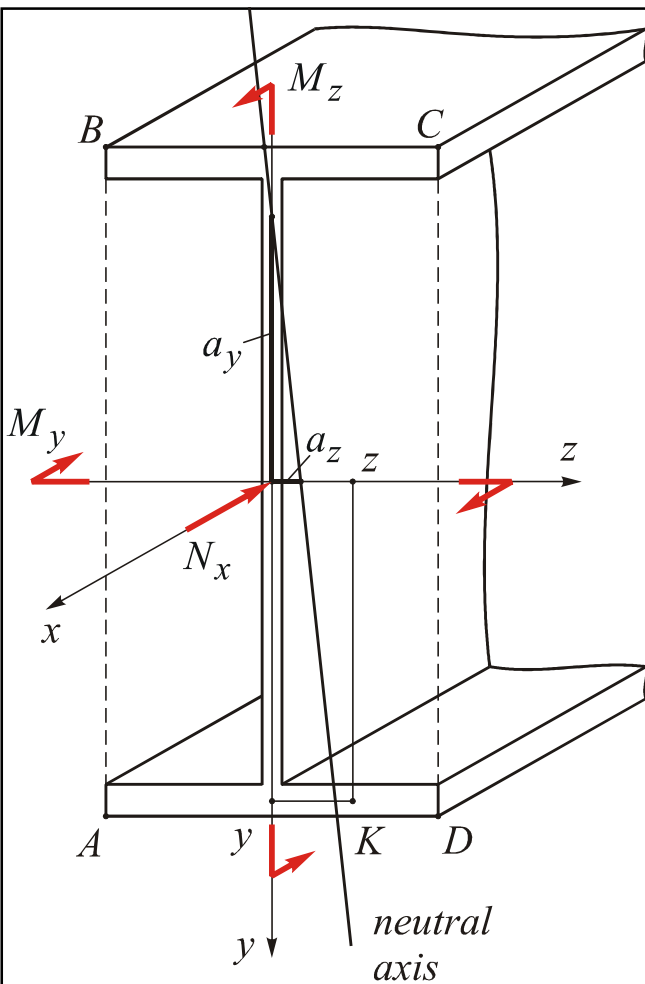

Fig. 4
5) Determine the neutral axis position analytically. For this purpose, equate to zero the stress in an arbitrary point K of $ABCD$ section. Let us select this point in the first quarter of the section (see Fig. 4).
These segments are shown in scaled cross section sketch on Fig. 4. Finally, the neutral axis is drawn through the segments tips.